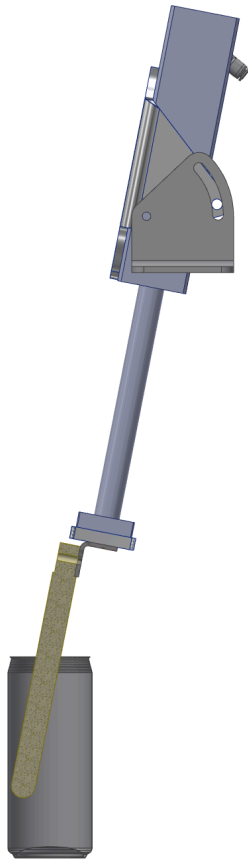

Fig. 42: Ideal Angle of Pins Inside Cans
5. Visually inspect the angle of Can Stop 1. The ideal angle is such that the pins pass through the center of the can diameter when they enter the can and just barely make contact with the inside of the can wall when fully extended. The ideal state is shown in Fig. 42.
6. If necessary, adjust the angle of Can Stop 1 so that its position is close to the ideal state shown in Fig. 42.